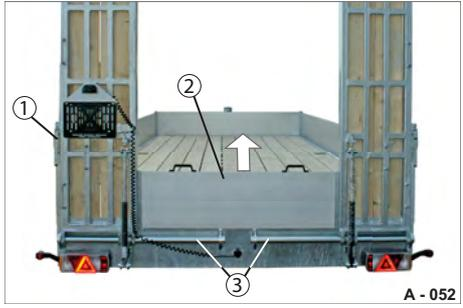

Fig. 77 Unlocking the drive-up ramps
- ▶ If necessary, remove the slot-in gate (Fig. 77/2).
- ▶ Check that the track width guide linkages (Fig. 77/3) are free of dirt - if necessary, clean and apply a little grease beforehand.
- ▶ Unlock the ramp retainer (Fig. 77/1).